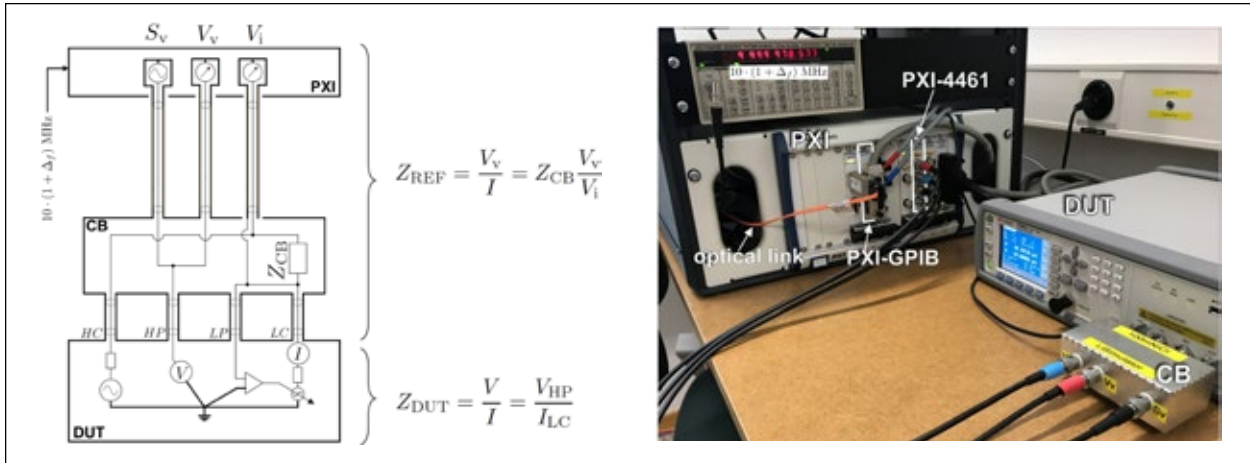

Figure 7. Principle of operation and example of iSimulator setup developed at METAS with calibrating impedance bridge Keysight E4980A.
The last approach developed and tested in the scope of this project was an active digital sampling simulator developed at METAS called *iSimulator*. The simulator is an extension of a previous version that was developed for higher impedances [13]. A simplified diagram of the new simulator is shown in Figure 7. The idea is that the RLC meter (UUT) supplies current  $I_{LC}$  to a calculable reference impedance  $Z_{CB}$ . The voltage drop at  $Z_{CB}$  is digitized by the PXI setup's digitizer channel  $V_i$ . Software (SW) controlling